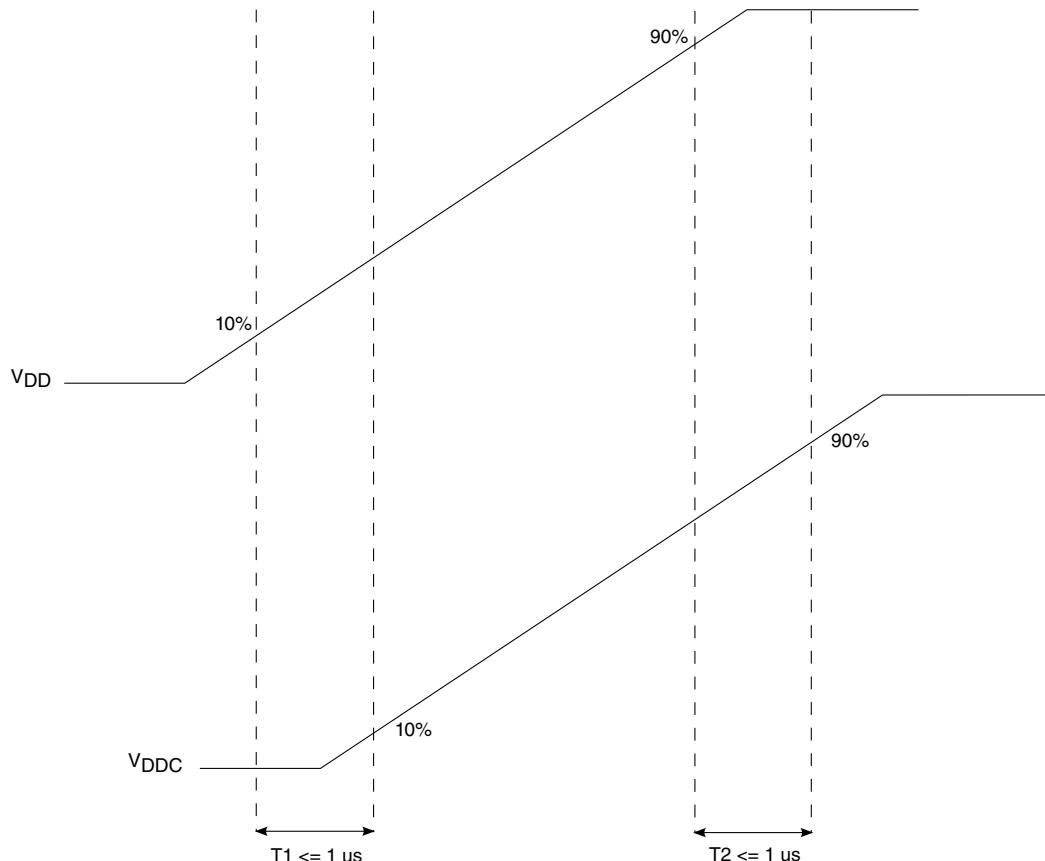

Figure 8. V_{DDC} and V_{DD} ramp-up diagram
2. When deep sleep mode is used, V_{DDC} should ramp up before V_{DD} . Alternatively, V_{DD} may ramp up together with V_{DDC} provided that the relative timing between V_{DDC} and V_{DD} ramp up conforms to Figure 8.